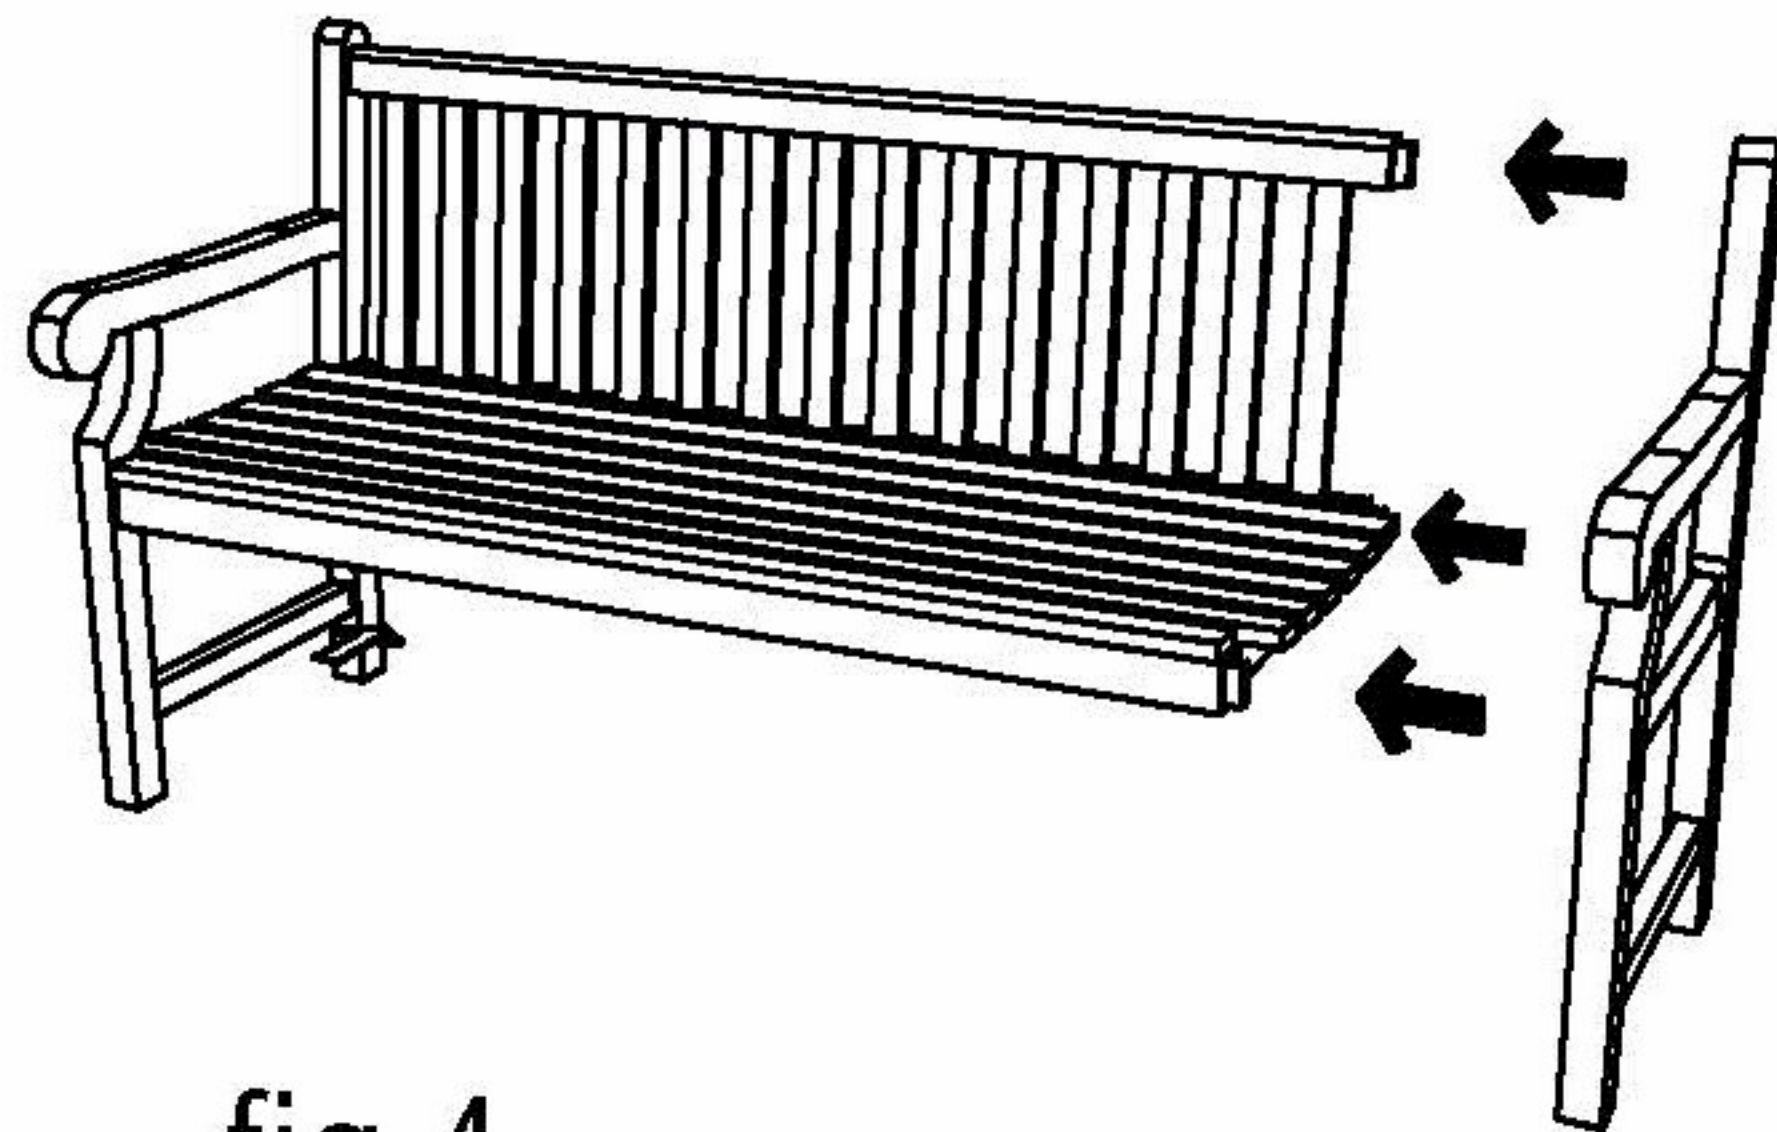

fig 4.
5. Insert the other leg. (Fig. 4)